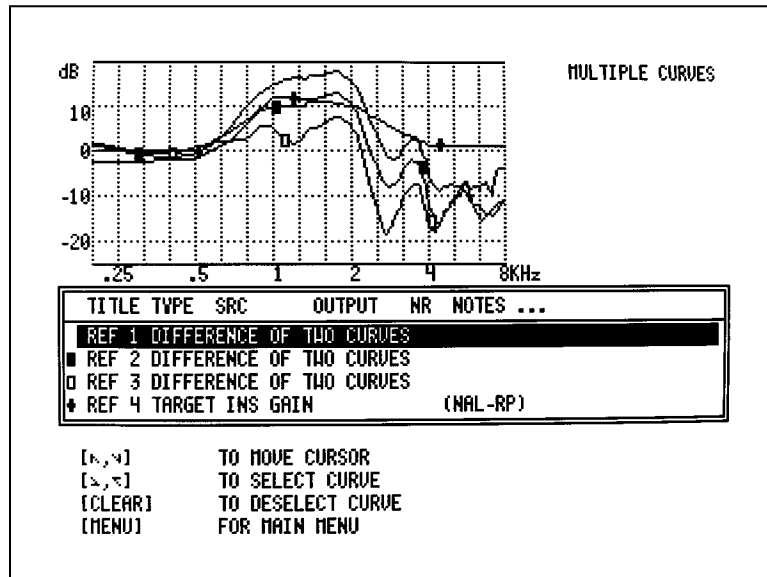

Figure 8.3.6.3—Multiple curves display
4. Press [START/STOP] to enter the Multiple curves display. REF 1-REF 4 should automatically be displayed. REF 1 is the “soft” level curve made at 50 dB. REF 2 is the “medium” level curve made at 65 dB. REF 3 is the “loud” level curve made at 80 dB. REF 4 is the target curve. It should usually match up with REF 2, the “medium” level curve. See Figure 8.3.6.3.